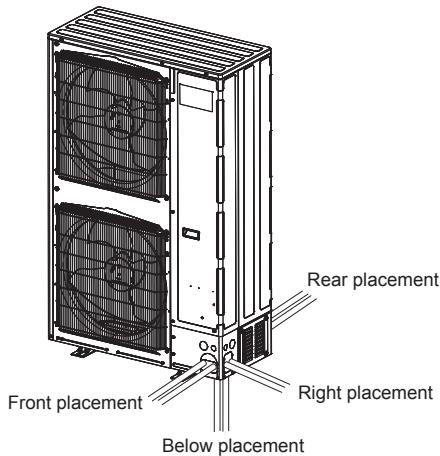

Fig. 4-11
- ① Perform refrigerant piping connections for the indoor/outdoor unit when the outdoor unit's stop valve is completely closed.
- ② Vacuum-purge air from the indoor unit and the connection piping.
- ③ Attach the front cover and back cover to match each of the directions the piping passes through. (Fig. 4-11)
- When routing piping using a piping cover, cut out the knockout in the piping cover (Ⓑ or Ⓓ) following the groove, and wrap the pipes. (Fig. 4-11)